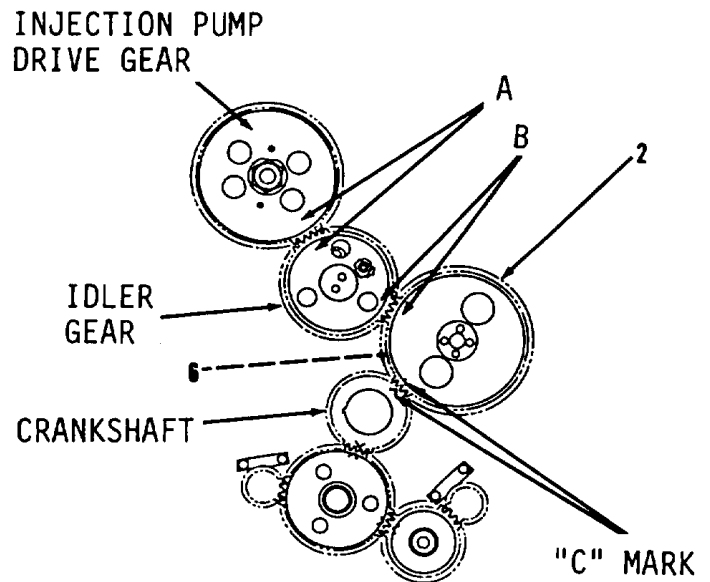

Figure 13-52.
11. Position camshaft gear (2) on camshaft (6, Figure 13-52) so that "C" mark is aligned with "C" mark on crankshaft.